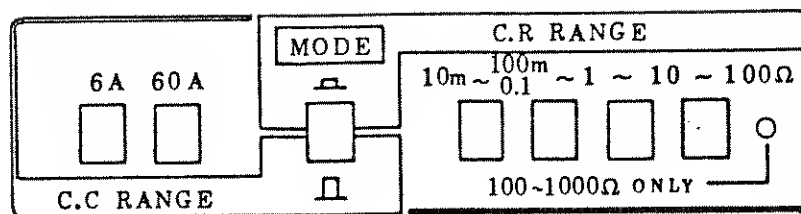

Figure 2-5-2
Step 2. The LED of the 100 - 1000 Ω range shown in Fig. 2-5-2 should be lit. Use the 10 - 100 Ω button for switching to the other ranges.